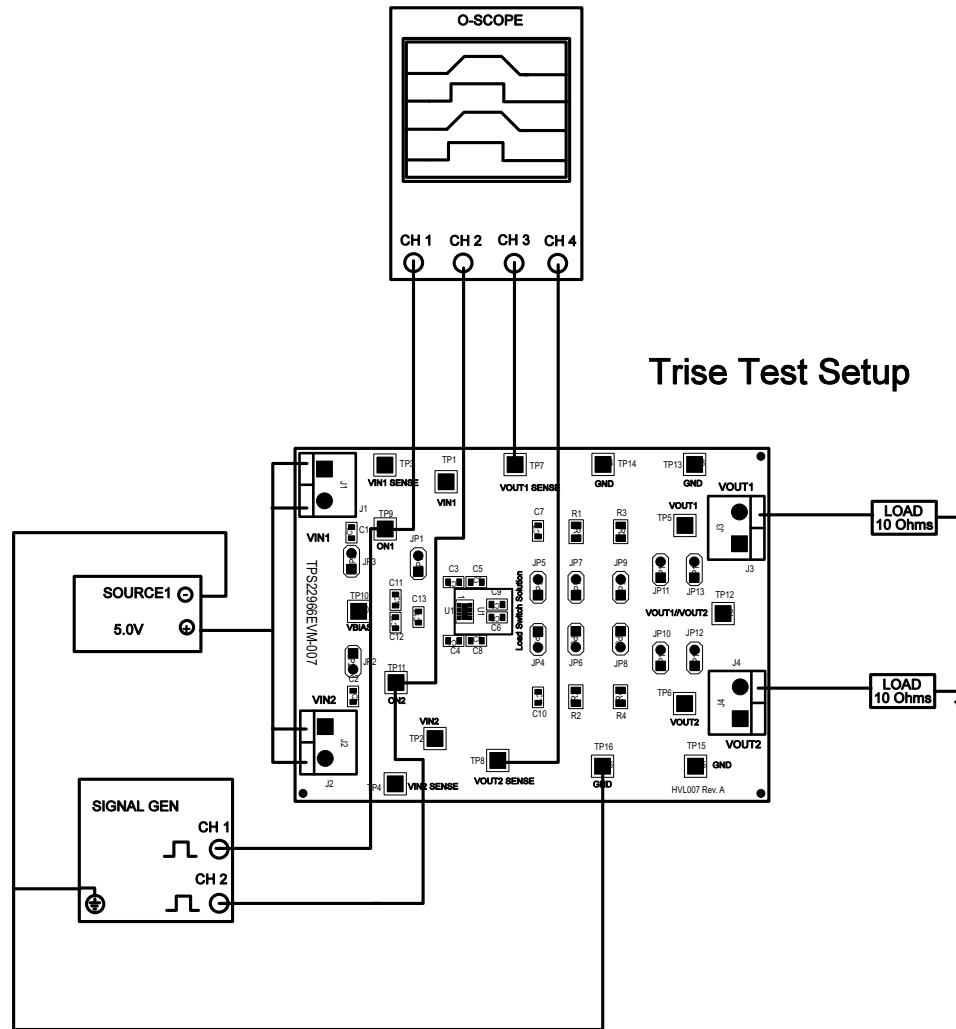

Figure 6. TPS22966EVM-007 Recommended Trise Test Set Up
2. Set up the EVM per Figure 6